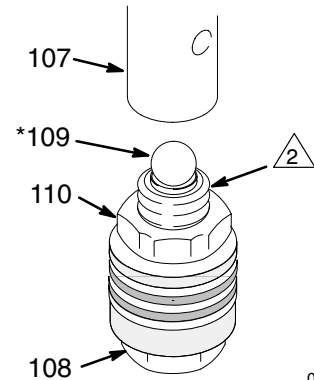

Fig. 20
- Tighten the nut (110) onto the piston valve (108) to 2 in-lb (0.23 N.m). See Fig. 20.
- Place the ball (109*) on the piston valve (108). See Fig. 20.